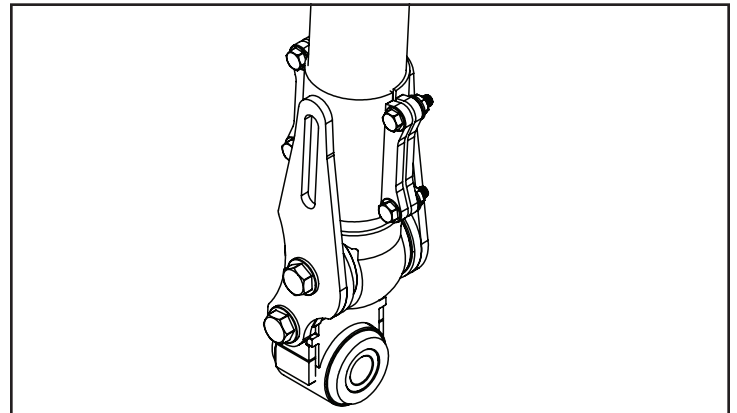

**FIGURE 34 - STEP 34**
33. Locate the Fabtech skid plate (FT30377BK). The skid plate will span the distance between the front and rear crossmembers directly under the front differential. Attach the end of the skid plate with the single hole to the tab on the back side of the front crossmember using one ½" - 13 x 1-1/4" bolt, washers and a C-lock nut. Lift up the back side of the skid plate and install it to the rear crossmember using two ½" - 13 x 1-1/4" bolts, washers and a C-lock nut. Torque all hardware to 127 ft-lbs. **SEE FIGURE 34**